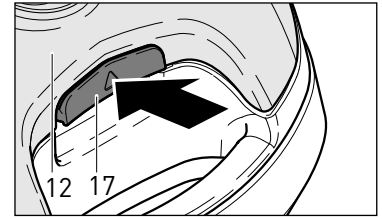
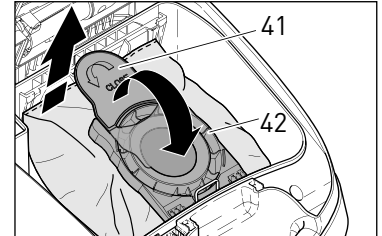

Figure 20
Figure 21
Changing the Filter Bag - Figures 20, 21 & 22
To change the filter bag (40), lift the filter bag release catch (17, figure 20) then lift open the filter bag cover (12). Seal the used filter bag with the sealing cap (41). Tilt the green sealing plate collar up (42, figure 21) and lift the bag out. Slide the front of the sealing plate (42) of a new bag vertically into the bag holder (43, figure 22). Line up the sealing plate so that the U-shaped metal spring (44) is positioned in the slot (44) of the collar and tilt it back into place. Close the cover, making sure it snaps shut completely. The cover will not close if the bag is inserted improperly. Do not re-use the filter bags. **Note:** The nature of the contents of the filter bag will affect the point at which it needs changing. Fine dust may require an earlier change even though the bag is not full. Fluff or hair allows air to pass through easily, so the filter bag may overfill before the “bag full” indicator turns orange.
The pre-motor filter (46) needs to be changed when it becomes extremely dirty or clogged with dust, or after approximately 10 to 20 filter bags have been used. To change the pre-motor filter, lift the filter bag release catch (17, figure 20), lift open the filter bag cover (12) and remove the filter bag. Grasp the tab at the bottom of the filter (47, figure 23) and pull the filter out and up. When the filter is horizontal, lift it out of the holder (48). Insert the new filter into the holder horizontally (48) then swing it downward until the tab (47) locks into place. Replace the filter bag and the filter bag cover.